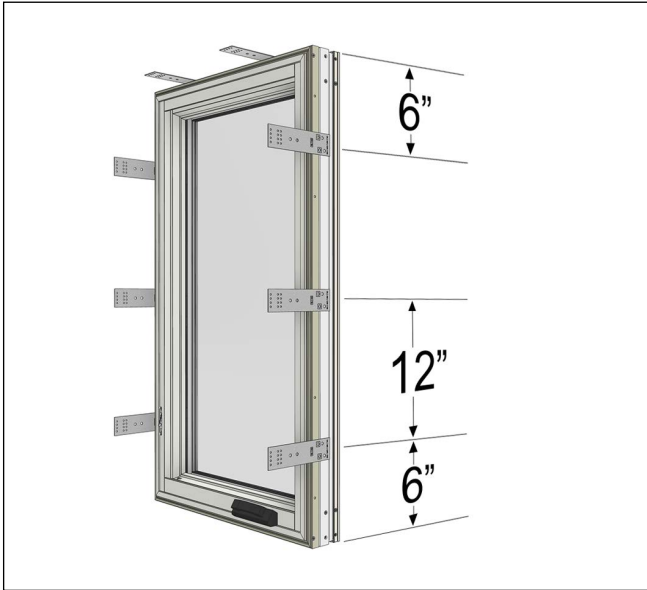
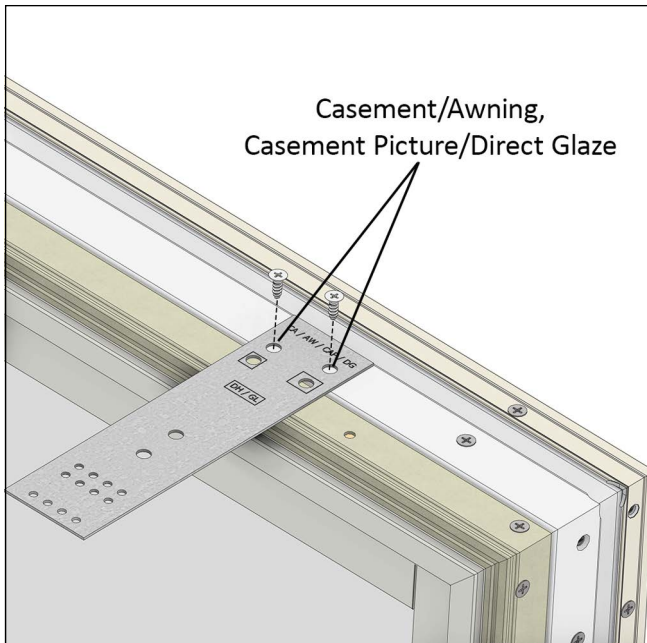
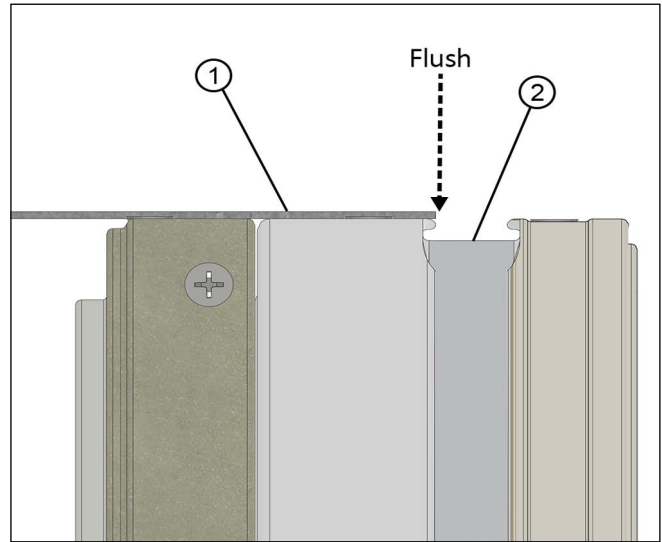

Figure 25
Figure 26
Figure 27
1. Attach structural brackets around the frame at the spacing shown in Figure 25 using two of the provided #7 x 1/2" screws and fastening through the designated holes (Figure 26). Bracket needs to be attached while flush to the t-slot. See Figure 27.